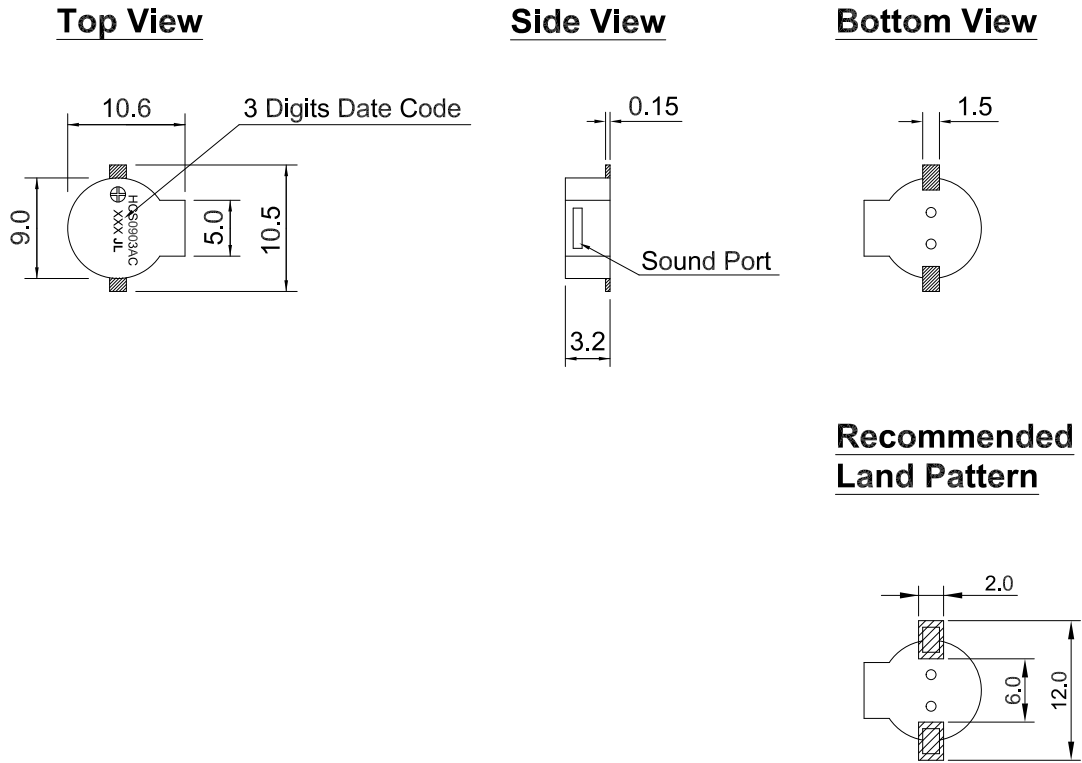

Figure 4. HCS0903AC Mechanical Layout
4.3.1. Layout and Dimension	: See Section 7, Figure 4